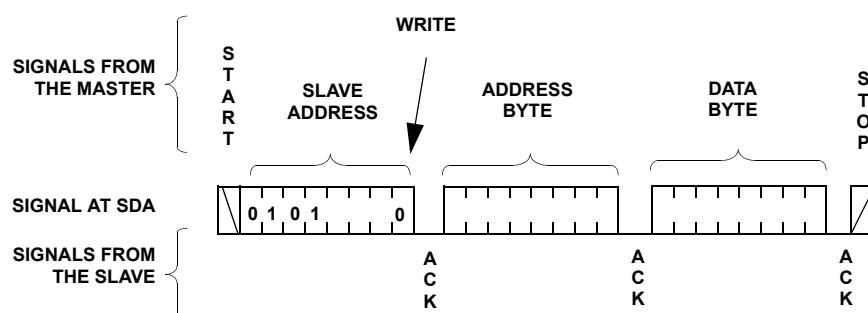
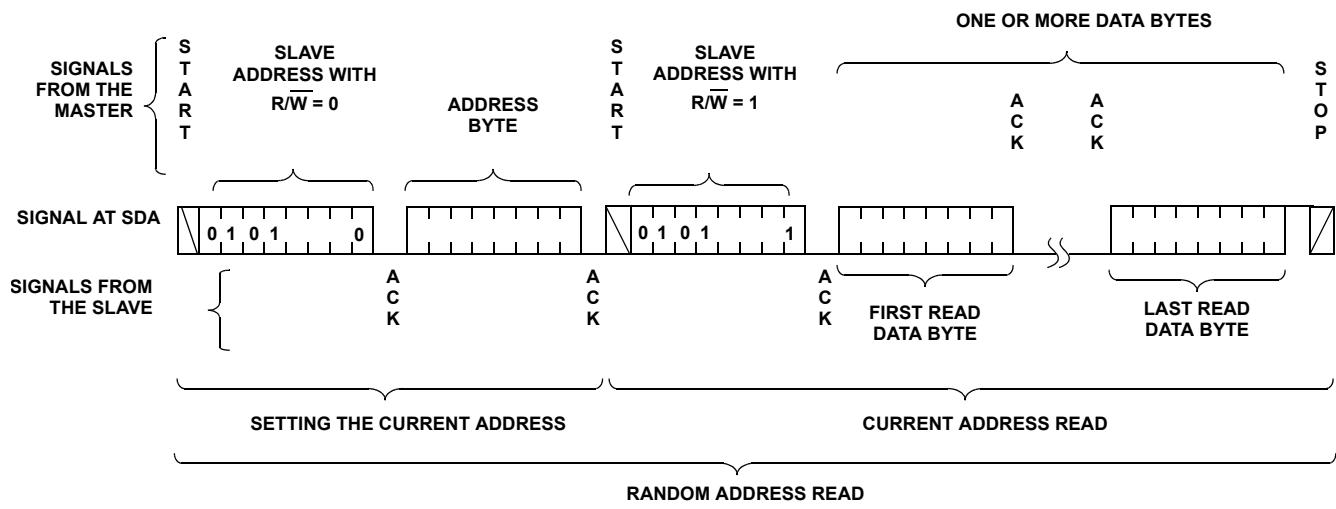

FIGURE 7. BYTE WRITE SEQUENCE
FIGURE 9. MOVE/READ SEQUENCE
14. Access the desired DR or WCR using a new write or read command (see Figure 7 for write and Figure 9 for read.)
For any Byte Write operation, the X9252 requires the Slave Address byte, an Address Byte, and a Data Byte (see Figure 7). After each of them, the X9252 responds with an ACK. The master then terminates the transfer by generating a STOP condition. At this time, if the write operation is to a volatile register (WCR, or SR), the X9252 is ready for the next read or write operation. If the write operation is to a nonvolatile register (DR), and the \overline{WP} pin is high, the X9252 begins the internal write cycle to the nonvolatile memory. During the internal nonvolatile write cycle, the X9252 does not respond to any requests from the master. The SDA output is at high impedance.
Move/Read operation consists of a one byte, or three byte instruction followed by one or more Data Bytes (see Figure 9). To read an arbitrary byte, the master initiates the operation issuing the following sequence: a START, the Slave Address byte with the R/W bit set to "0", an Address Byte, a second START, and a second Slave Address byte with the R/W bit set to "1". After each of the three bytes, the X9252 responds with an ACK. Then the X9252 transmits Data Bytes